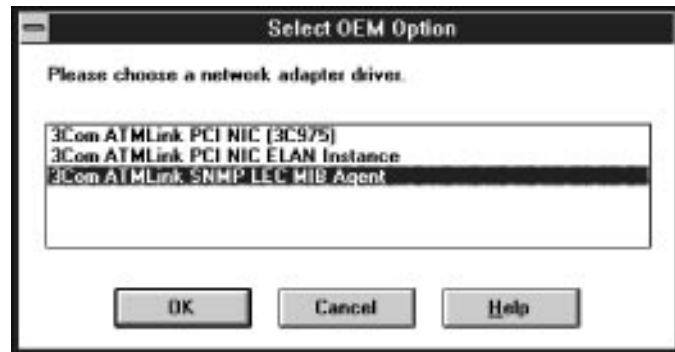

Figure 3-16 Selecting the SNMP LEC MIB Agent
- 2 From the Select OEM Option dialog box, select *3Com ATMLink SNMP LEC MIB Agent*, as shown in Figure 3-16.**